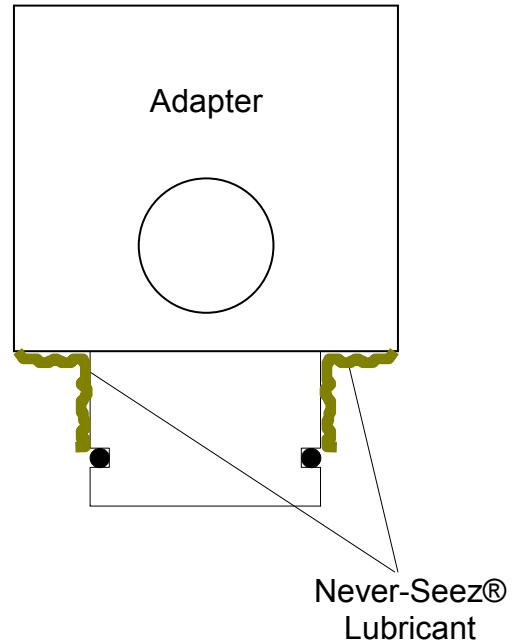

Figure 8
13. Apply Never-Seez® lubricant to the nozzle adapter as shown in Figure 8.